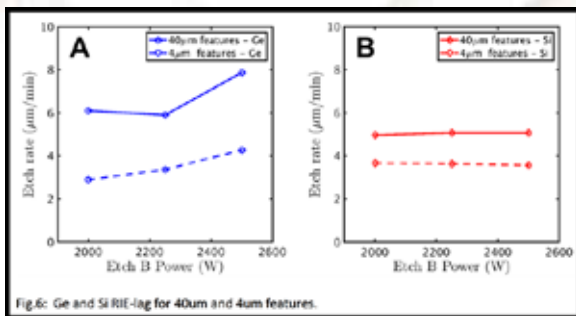
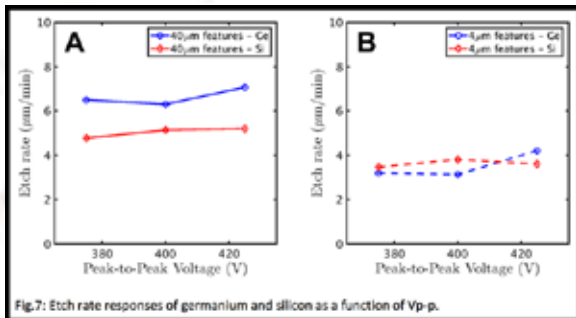

Fig.6: Ge and Si RIE-lag for 40µm and 4µm features.
Fig.7: Etch rate responses of germanium and silicon as a function of Vp-p.
- Figure 6: Nb etch ($Cl_2/BCl_3/Ar$)
- Figure 7: Mo etch ($Cl_2/O_2/Ar$)
The isotropic etch step (etch B) is dependent on the dissociation of SF_6 and increasing the ICP source power results in increasing amounts of atomic fluorine and the generation of volatile SiF_4 and GeF_4 reaction products. The Ge etch rate responds favorably to increases in atomic fluorine and the increasingly chemical nature of the plasma. The respective Ge and Si RIE-lags as a function of etch B source power are shown in Figure 6. The 46% decrease in Ge etch rate at the 4 µm feature size is again indicative of the highly chemical dependence of Ge in fluorine-based chemistry and its response to a decreased transport of chemical species at higher aspect ratios. The etch rate responses as a function of peak-to-peak voltage within the polymer removal step of etch A are shown in Figure 7.